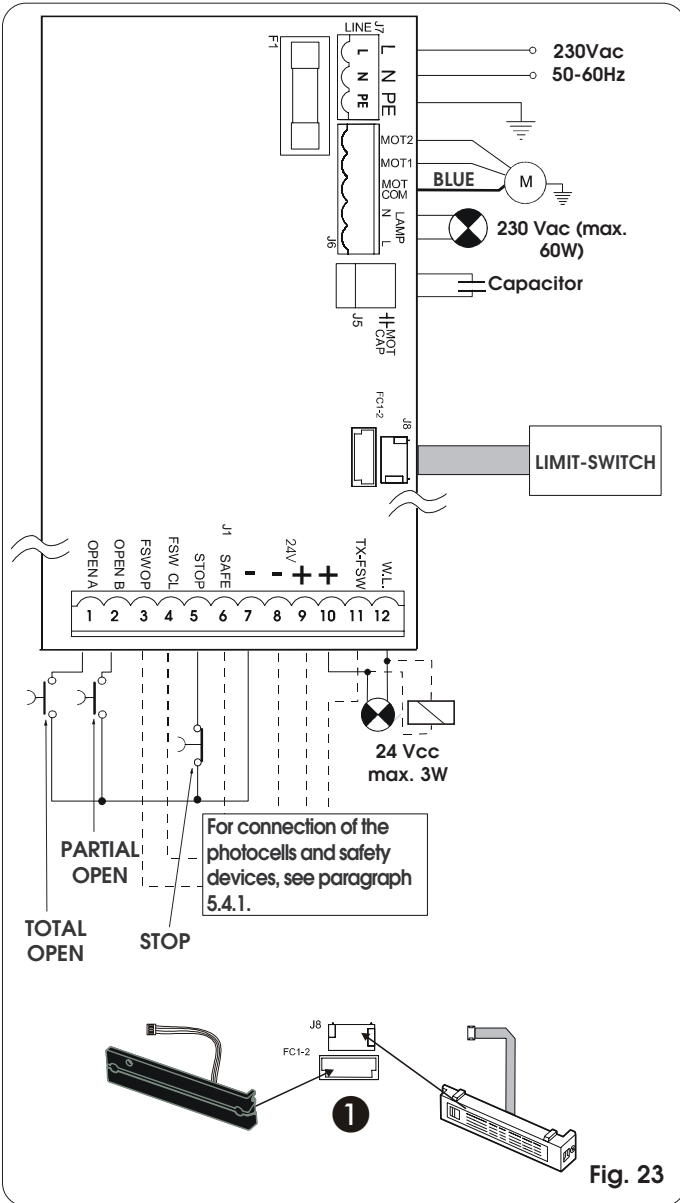

Fig. 23
5.4.2. J7 Terminal board - Power supply (fig. 23)
5.4.3. J6 Terminal board - Motors and flashing lamp (fig. 23)
5.4.4. J1 Terminal board - Accessories (fig. 23)
Quick-fit connector for connecting the limit-switch. For connecting both the MLS limit-switch and the inductive limit-switch (fig. 23 ref. 1) to the equipment.